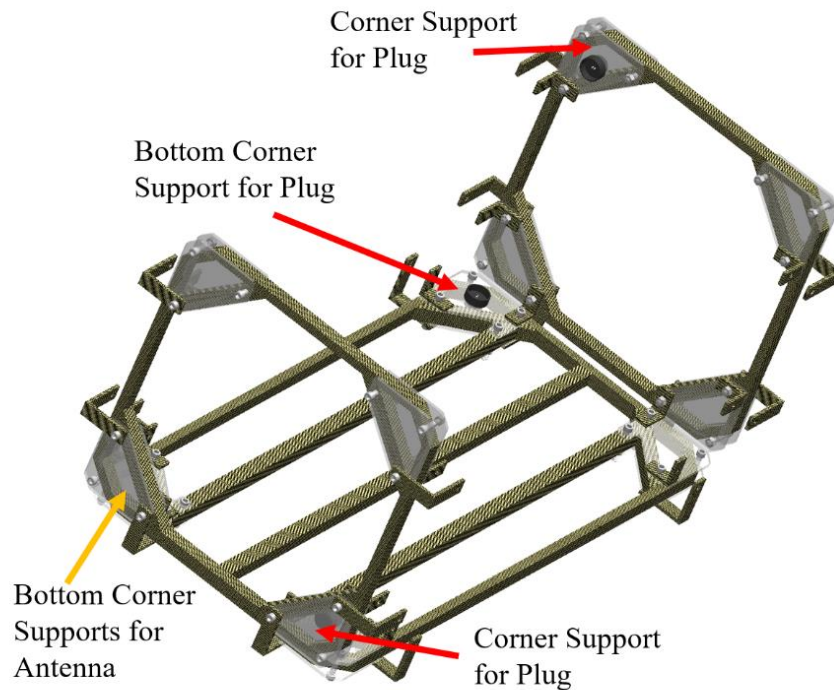

Figure 1.4
- On the opposite short edge of the Bottom Coil (PN ASMB009), attach the Left Coil (PN ASMB004) as shown in Figure 1.4. The Left Coil edge with no bolted brackets closest to the plug should be bolted to the short edge of the Bottom Coil with the Bottom Corner Support for Antenna. Bolt the currently unbolted holes in the brackets to the unbolted holes in the acrylic supports on the Left Coil using two 2.5" 3/8-16 bolts (PN OUTS003), and two 3/8-16 nuts (PN OUTS004). Note: match drill to fit as needed.